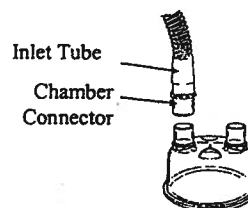

Fig 4. Connecting the Inlet Tube.
4. Connect the Inlet Tube to either of the ports of the HC325 as shown in Fig 4. The other end of the Inlet Tube connects to the blower.